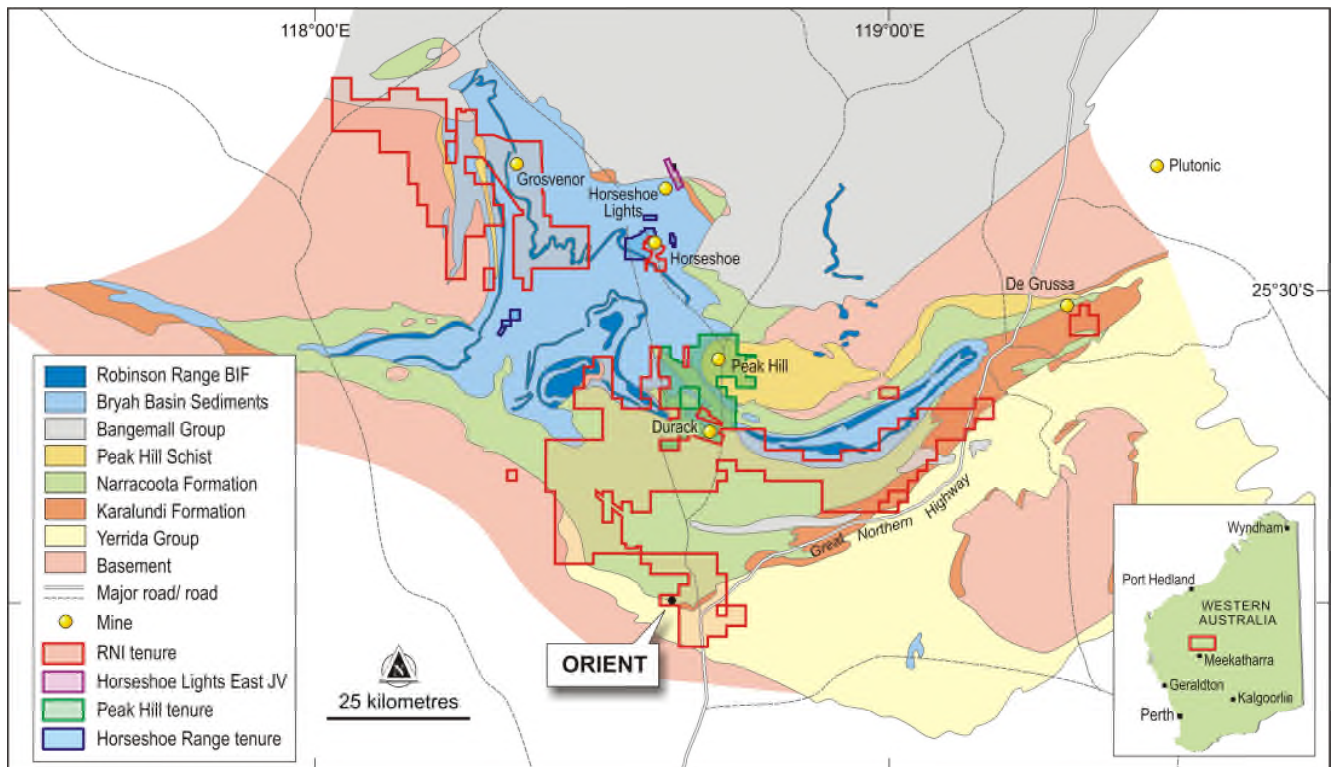

Figure 1: Orient prospect location plan
- **Downhole electromagnetic (EM) survey at the Orient copper prospect identifies two base metal conductors**
**Resource and Investment NL (ASX: RNI) (RNI or the Company)** is pleased to provide an exploration update from the Orient copper prospect in the southern area of the Company's Grosvenor project in Western Australia (Figure 1).